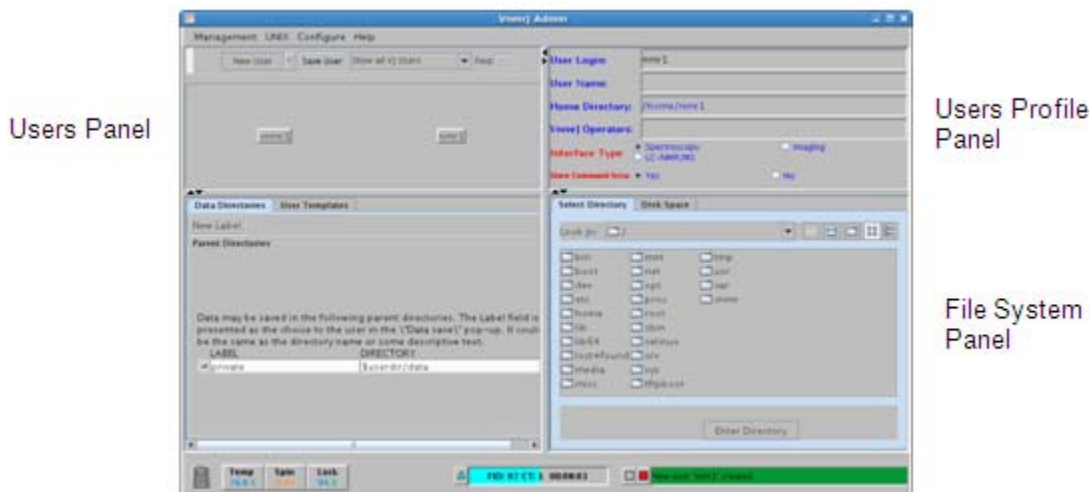

Figure 5 VnmrJ Administrator Window
3. If prompted, enter the administrator password to start VnmrJ Admin, see Figure 5.
The VnmrJ Admin interface provides the tools for administering VnmrJ software and user accounts, see Figure 5. Select administration functions from the menu bar.